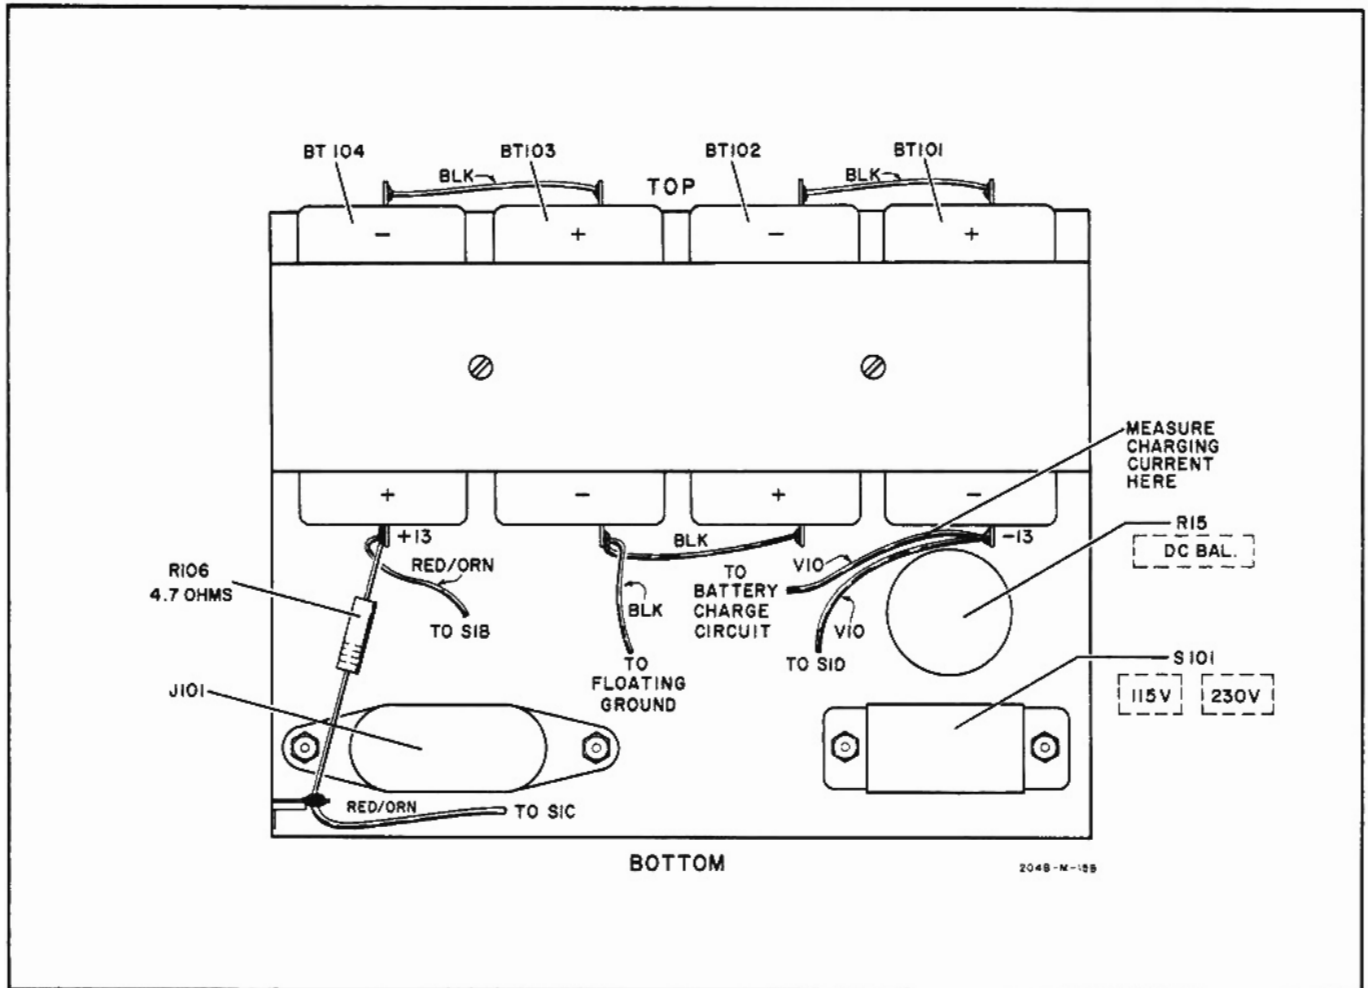

Figure 5-9. Rear Internal View of Rechargeable Battery Power Supply
- f. Unsolder resistor R106 (4.7 ohms), red/orange black, and violet wires from batteries (see figure 5-9).
- i. Place four new batteries in instrument observing battery polarity as indicated in figure 5-9.
k. Solder R106, red/orange, black, and violet wires to batteries. (See figure 5-9.)
p. Check voltage and polarity between floating ground and bottom terminals on batteries BT101 and BT104. (See figure 5-9.) Terminal on BT101 (violet wires) must be negative and terminal on BT104 (red/orange wire) must be positive with respect to floating ground (black wire on bottom terminals of BT102 and